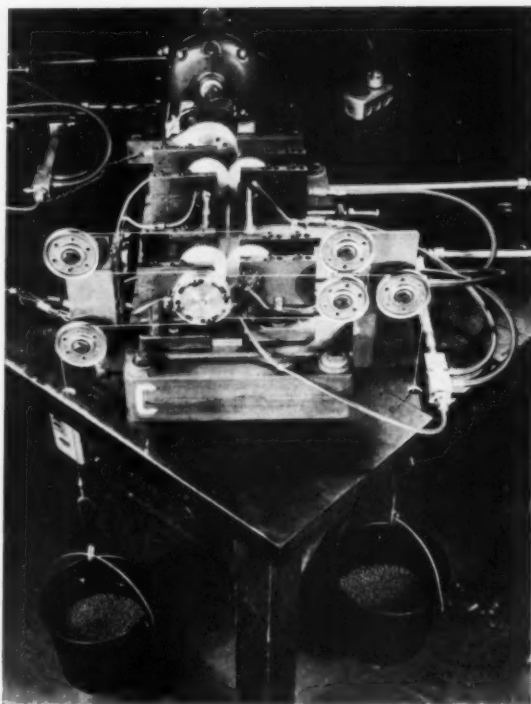

Fig. 2—Method of loading gear teeth.
**Loading the Gear Teeth:** The friction coupling is twisted by a system of cables, pulleys, and weights, Fig. 2. One cable anchors the inner half of the coupling, while two other cables with buckets of lead shot attached to their ends twist the outer half of the coupling. This rather elaborate loading system is used to eliminate bending from those parts that support the two halves of the coupling. The cables are fastened to the coupling with small screws threaded radially into the coupling. After the coupling halves have been clamped together, the cables and their fastening screws are removed to permit rotation.
**Capacity of Machine:** Gears having pitch diameters of from 1 to 4 inches can be accommodated by moving the bearing supports to obtain the proper center distance. The four bearing supports of the rear, or right-hand, gears of Fig. 2 are movable as a unit, while the other supports are integral with the base.